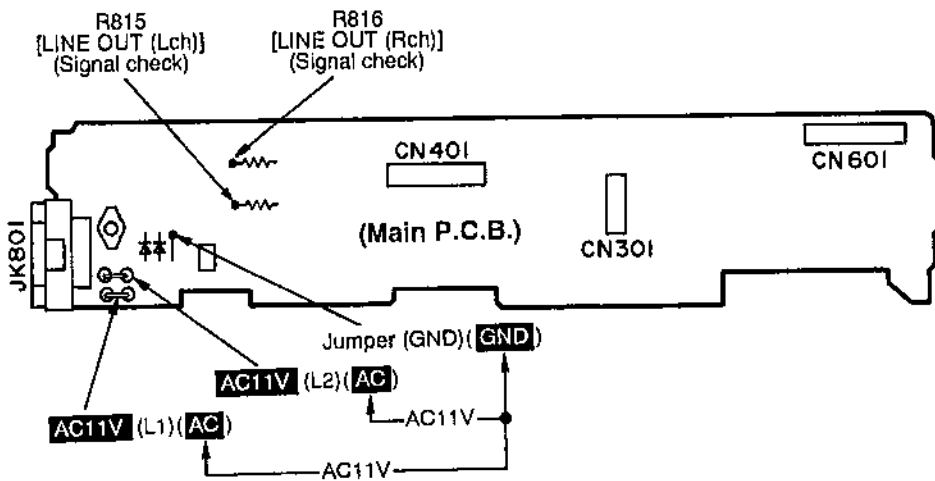

Fig. 1
Apply 11V AC power to the section between AC11V (AC) of the coil (L1) and the jumper J1 (GND) as well as the section between AC11V (AC) of the coil (L2) and the jumper J1 (GND). (10V AC power can be also applied when using power supply tool.) (Shown in Fig.1)
Connect the oscilloscope or the speaker with built-in amplifier to the section between LINE OUT (Lch) of the resistor R815 and the GND point of the jumper J1 as well as the section between LINE OUT (Rch) of the resistor R816 and the GND point of the jumper J1 and check if the signals are outputting from this unit. (Shown in Fig. 1)